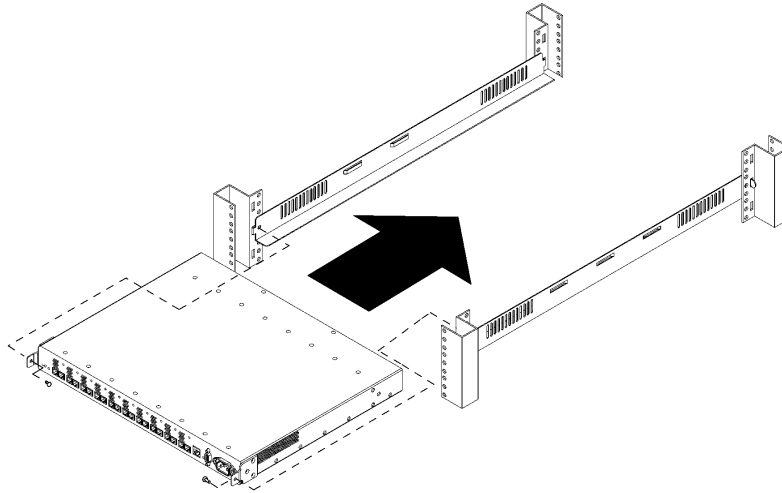

Figure 7. Installing the HP FC-AL hub into the cabinet
- g. Set the HP FC-AL hub on the cabinet. Align the hole in each mounting ear bracket with the holes in the assembled rail, nut, and column, and insert a 10-32 x .625 machine screw. Securely tighten the screws (see figure 7).